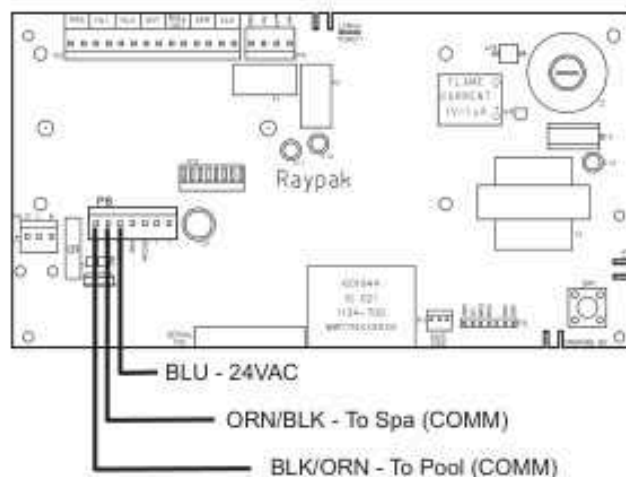

Figure 57. 3-Wire Remote Harness Installation on the P8 Connector of the Board
- Install the "Remote Interface Harness" to the P8 connector and turn power ON to the heater. See Figure 57.